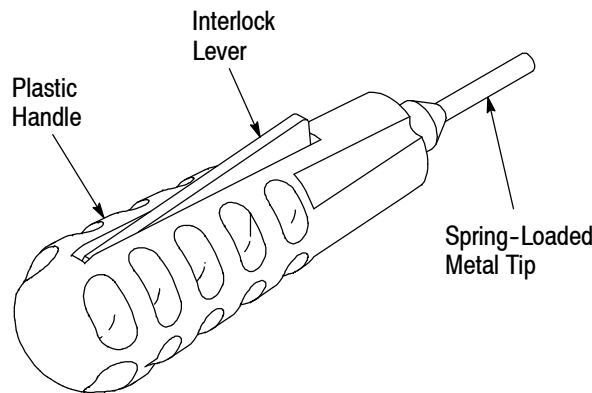

Figure 1
Extraction Tool 318837-1, shown in Figure 1, is designed to remove the .093 Commercial Pin and Socket contacts listed in Figure 2 from connector housings. Read these instructions thoroughly before attempting to remove any contacts.
2. DESCRIPTION (Figure 1)